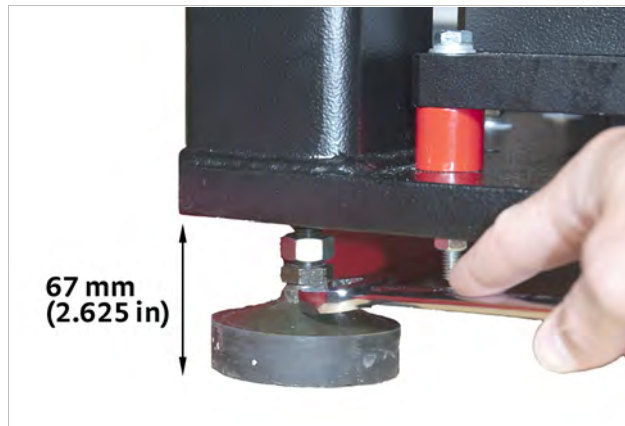

FIGURE 3-7 Lowering the probe station foot
- a. Using a $\frac{3}{4}$ in or adjustable wrench, lower the four feet of the probe station outer stand (FIGURE 3-7).
- b. Lower each of the four probe station outer stand feet until the bottom of the probe station stand is approximately 67 mm (2.625 in) from the floor. This will take the weight of the probe station off of the long red cross braces. For uneven flooring, it is acceptable if the bottom of the feet are lowered up to 85 mm below the bottom of the stand (FIGURE 3-7).